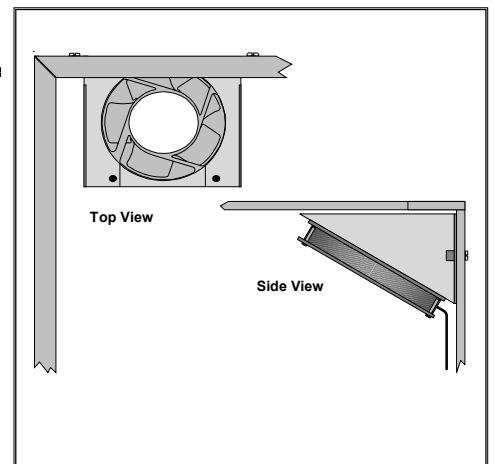

Fig. 2 Fan Mounting
5. Install the fan using the #6 machine screws included with the kit (see Fig. 2).